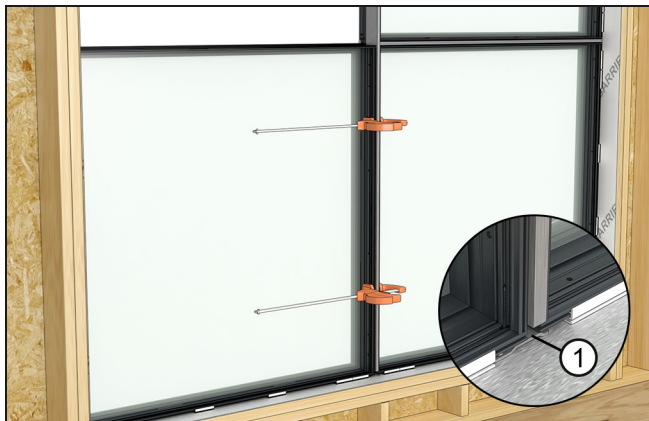

Figure 54
20. Clamp this unit to the previous assembly, making sure that the interiors are flush and aligned along the entire jamb. See Figure 54.